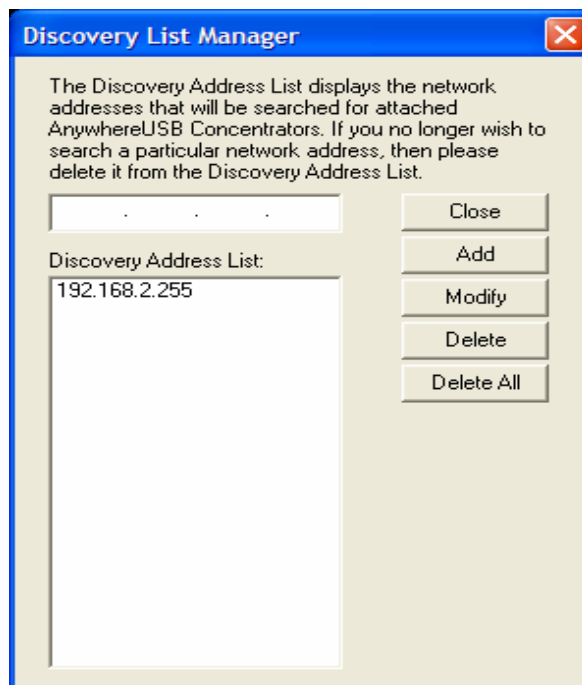

Figure 17
2. Add the Subnet addresses or the IP Address of the individual device to the Discovery List Manager (see Figure 17). For example, to add the Class C network 192.168.2.x, enter 192.168.2.255. Note that the routers must be configured to pass subnet broadcasts.